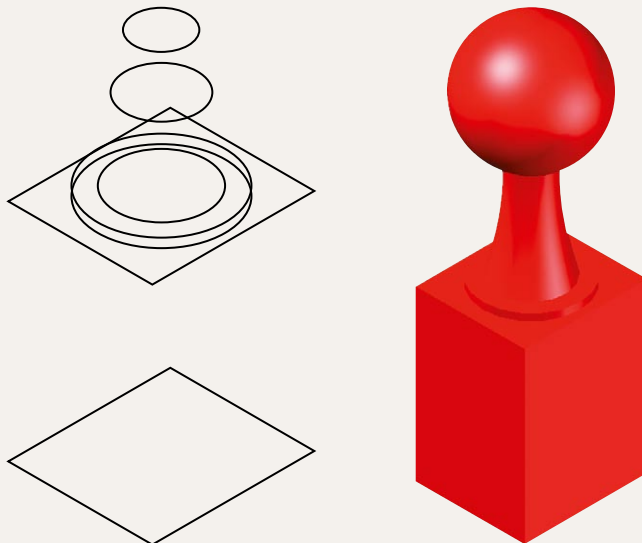

Fig. 12.54 The cross sections for Exercise 10
10. Construct the cross sections as shown in the left-hand drawing of Fig. 12.54 working to suitable dimensions. From the cross sections construct the lofts shown in the right-hand view. The lofts are topped with a sphere constructed using the **Sphere** tool.